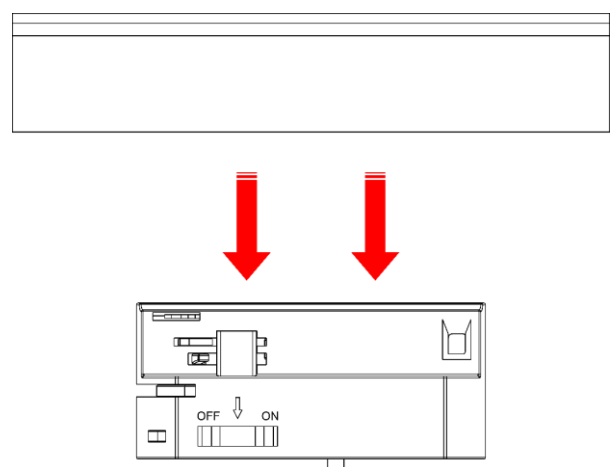

Fig. 13
- 05) Pull the **track adapter (01)** from the track (see Fig. 13).